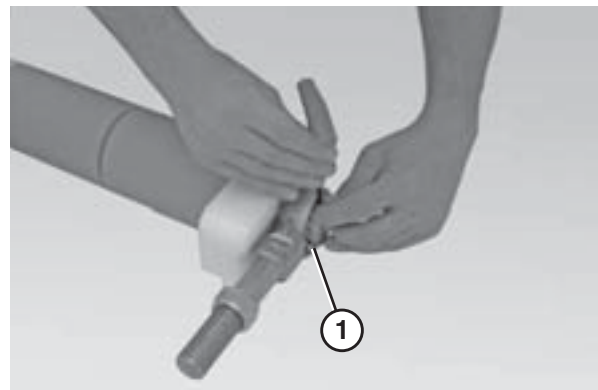

Figure 71
4. Use a 4 mm hex wrench (Figure 71, item 1) to loosen the bearing shaft assembly fasteners (Figure 71, item 2).